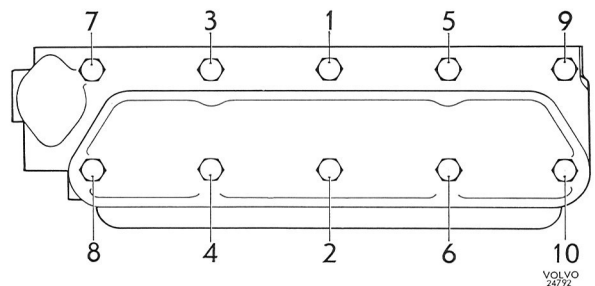
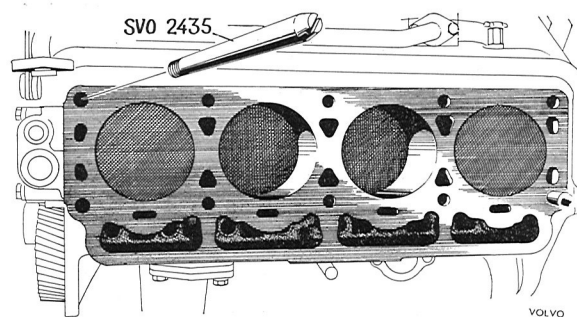

Fig. 2-28. Tightening sequence for cylinder head bolts
Fig. 2-29. Guide pins for cylinder head installation
The cylinder head is installed with the help of guide pins 2435. The bolts must be tightened in a certain sequence as shown in Fig. 2-28 in order to avoid unnecessary stresses. Check that the oil hole (Fig.
9. Install the valves. Screw the guide pins 2435 into the block, one in the front right-hand hole and the other in the left-hand rear hole, see Fig. 2-29. Install a new cylinder head gasket with the "TOP" upwards (wide edge). Install new seals for the water pump and the cylinder head. Screw out the guide pins and install the bolts in these holes as well. For tightening sequence, see Fig. 2-28. Tightening should be in three stages: 1st stage 40 Nm (29 lb ft), 2nd stage 80 Nm (58 lb ft); 3rd stage: after running the engine, see point 11.
19. Screw the guide pins 2435 into the block, one in the front right-hand hole and the other in the left-hand rear hole, see Fig. 2-29. Install a new cylinder head gasket with the "TOP" upwards (wide edge). Install a new inlet duct gasket and new seal for the water pump. Install the cylinder head. Screw out the guide pins and install the bolts in these holes as well. For tightening sequences, see Fig. 2-28. Tightening should be in three stages: 1st stage 40 Nm (29 lb ft); 2nd stage 80 Nm (58 lb ft); 3rd stage: after running the engine, see point 34.